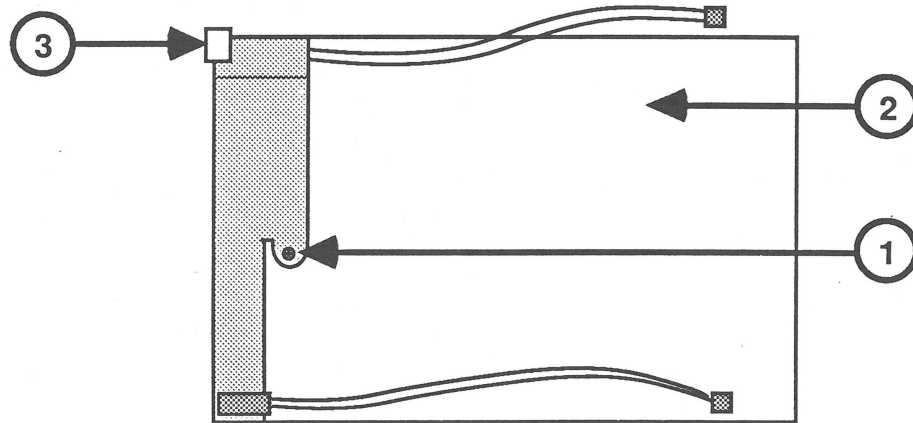

FIGURE 13
2. Remove the screw (Figure 13, #1) that secures the metal bracket to the case top (Figure 13, #2).
3. Lift the eject switch assembly (Figure 13, #3) off the holding tabs.
1. Position the eject switch (Figure 13, #3) over the holding tabs.
2. Replace the screw (Figure 13, #1) that secures the metal bracket to the case top.